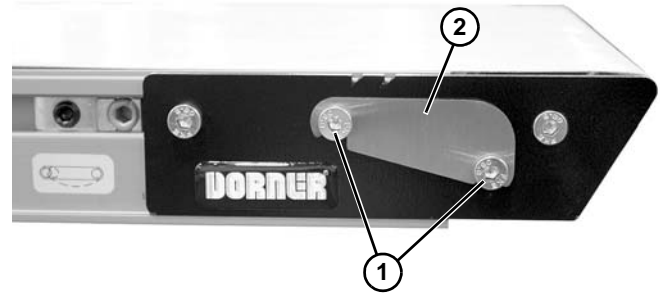

**Figure 25**
2. Install round end (Figure 25, item 1) of dust cover into recessed screw hole (Figure 25, item 2).
3. Insert flat end (Figure 25, item 3) of dust cover into access slot (Figure 25, item 4), making sure it rests against notch (Figure 25, item 5).